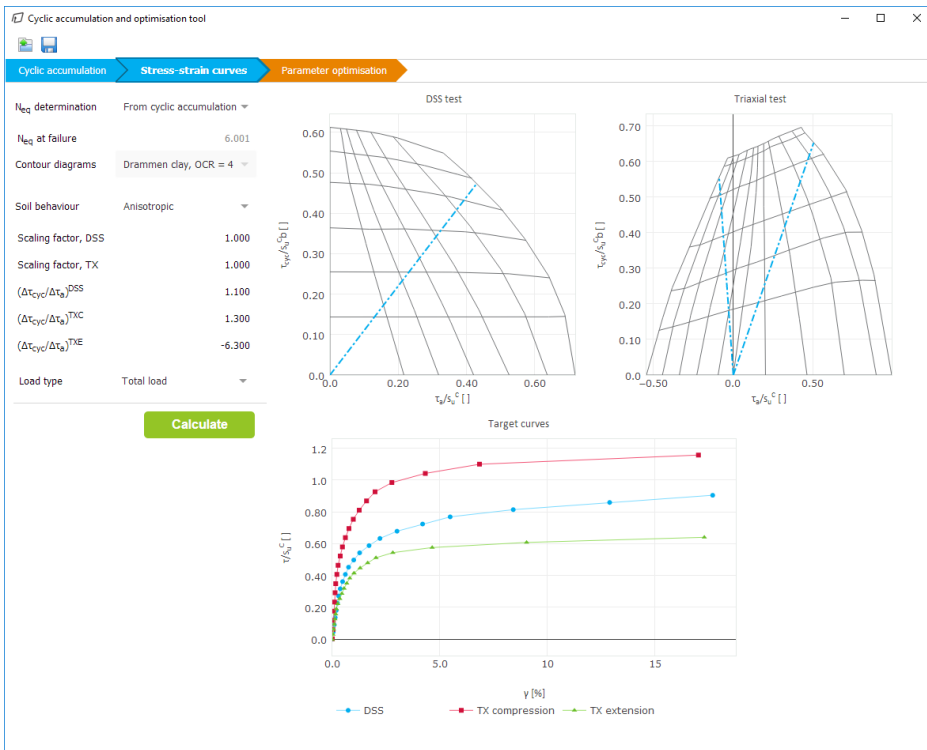

Figure 8.7 Stress-strain curves for total load
- Select the load type of interest, *Total load case* is selected for this first material. DSS and triaxial contour diagrams are plotted together with stress paths described by the cyclic to average ratios Figure 8.7. Notice that the shear stresses are normalised with respect to the static undrained shear strength in compression. The extracted stress-strain curves are plotted below the contour diagrams.
- Press *Calculate* to produce the corresponding normalised stress-strain curves below the contour diagrams. See Figure 8.7 for the outcome.